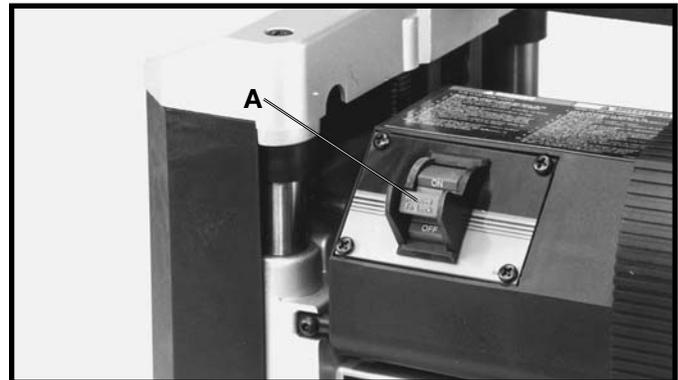

Fig. 14
The on/off switch (A) Fig. 14, is located on the front of the planer motor. To turn the machine "ON" move the switch to the up position. To turn the machine "OFF" move the switch to the down position.